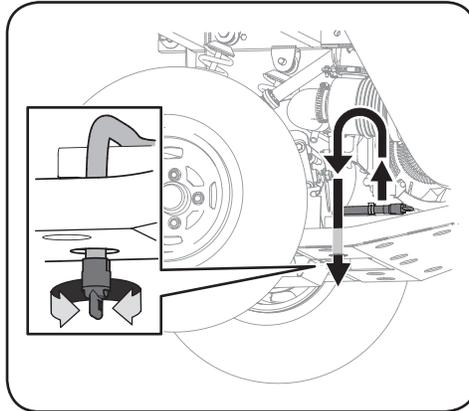

Figure 6-2
1. Place the oil drain hose down through the hole closest to the oil drain hose. See Figure 6-2.
2. Turn the plug counterclockwise and allow oil to drain into a suitable container. See Figure 6-2.